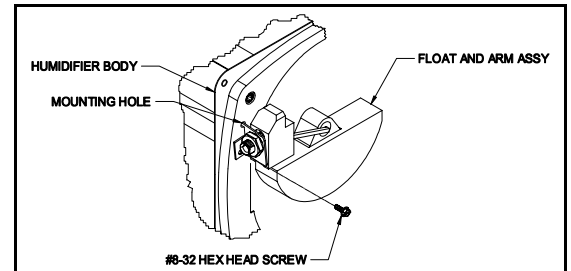

Figure 7
3. Connect water supply from the saddle valve to the TurboMist™ valve. (Figures 7 & 8)